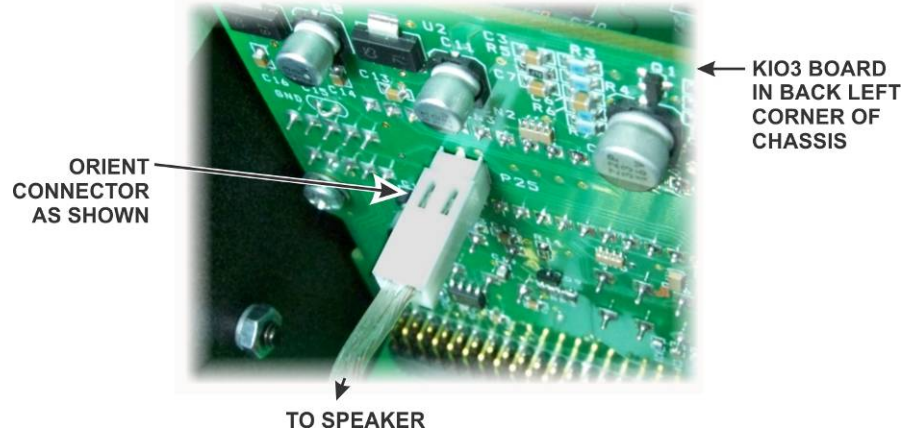

Figure 20. Connecting Speaker Cable.
- Hold the top cover above the K3S/K3, route the speaker wire under the stiffener bar and plug it into P25 on the KIO3A/KIO3 board at the left rear as shown in Figure 20.